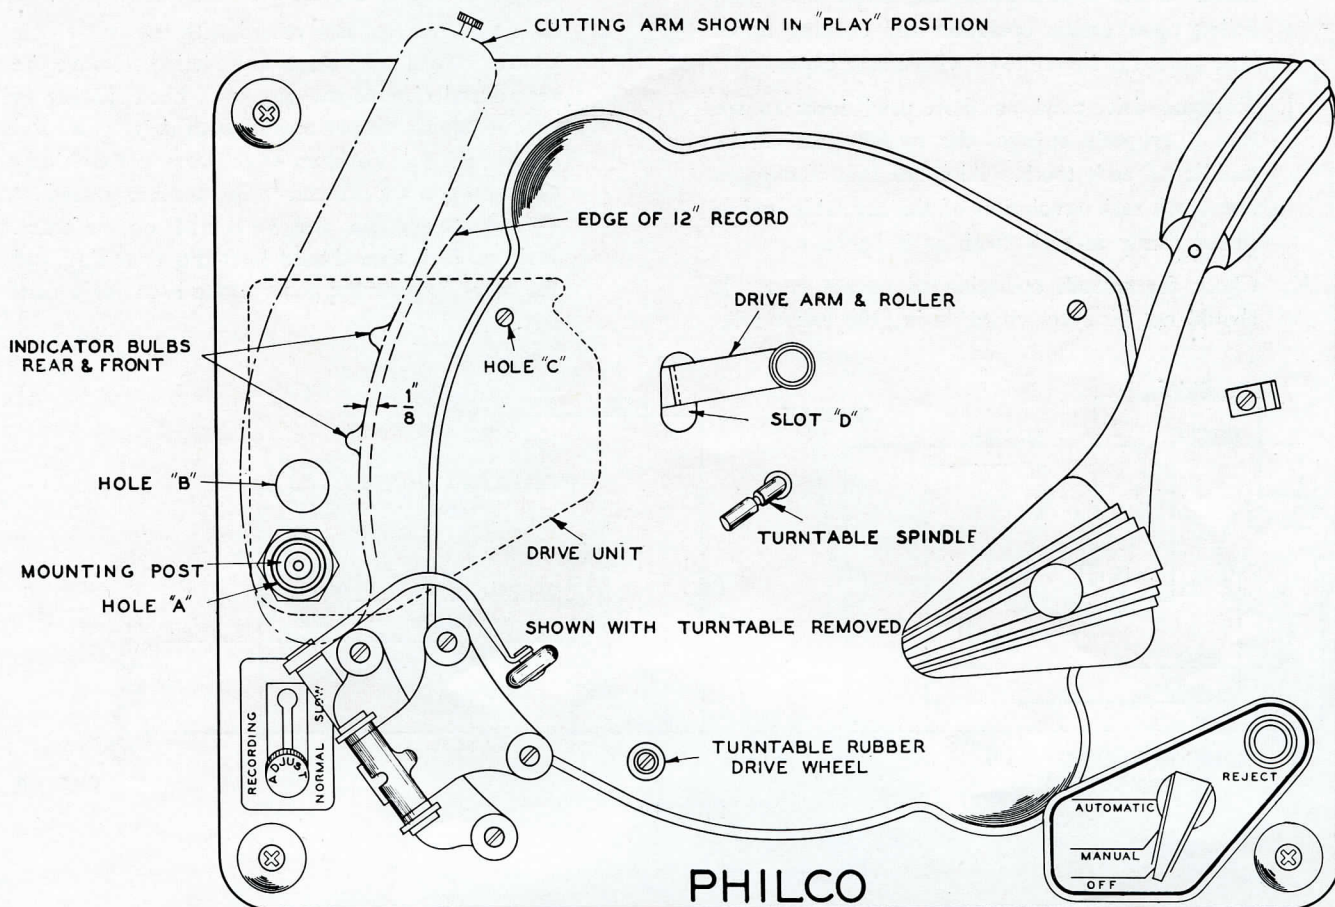

FIG. 13
- H. Check drive arm roller to be sure that it is riding the cam of the turntable hub assembly properly. This roller should ride fully on the cam, with the top approximately 9/16" above base plate of record changer when the roller is in its downward position. It should also move freely back and forth without binding in Slot D, Fig. 13. With the cutting arm in the "play" position and the turntable revolving, reach under the mechanism and touch the drive arm. If it is free, there will be no vibration, but if the roller is touching the under side of the turntable, scraping will be felt. With the cutting arm in the "recording" position, observe if there is an even pulse of the drive arm on each revolution of the turntable. Light grease should be used wherever any metal surfaces touch, but should not be used on the rubber roller.